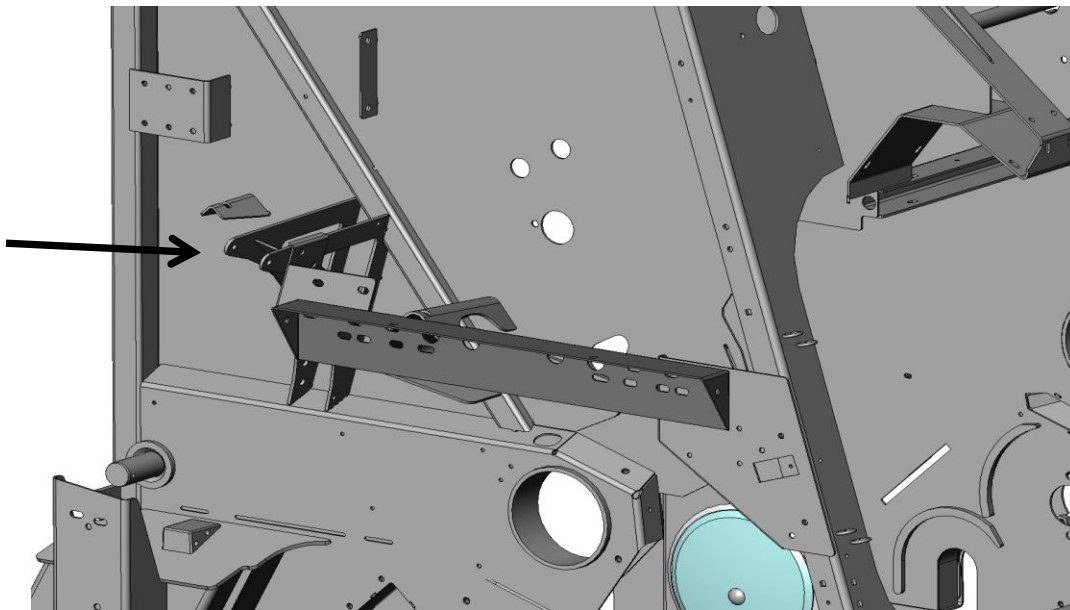

Figure 7
2. Use two 3/8" x 3/4" hex bolts, flat washers, lock washers, and nuts to secure Pump Plate Bracket (001-4703XF) to back side of Pump Mounting Bracket (001-4646C). Use holes **3 and 4** as designated in Figure 7 on the Pump Plate Bracket (001-4703XF). Slide the Pump Plate Bracket (001-4703XF) so it touches the door support bracket.